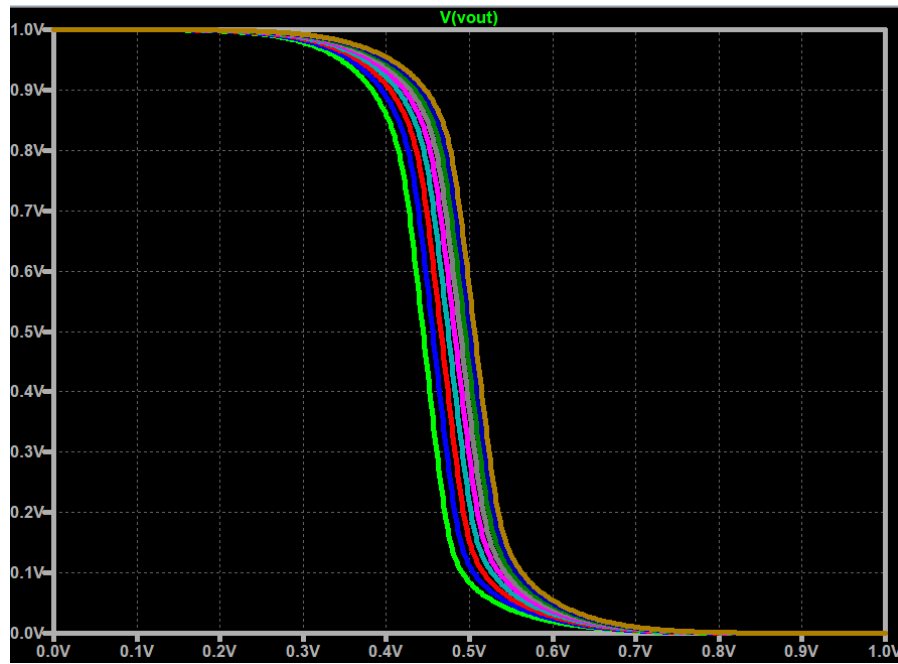

Figure 3.3 Parametric analysis of the VTC curve for varying PMOS widths
3. Run a simulation plot VOUT. You should see this nice looking VTC curves just like the one in Figure 3.3. Feel free to zoom in the area near the 0.5 input region.